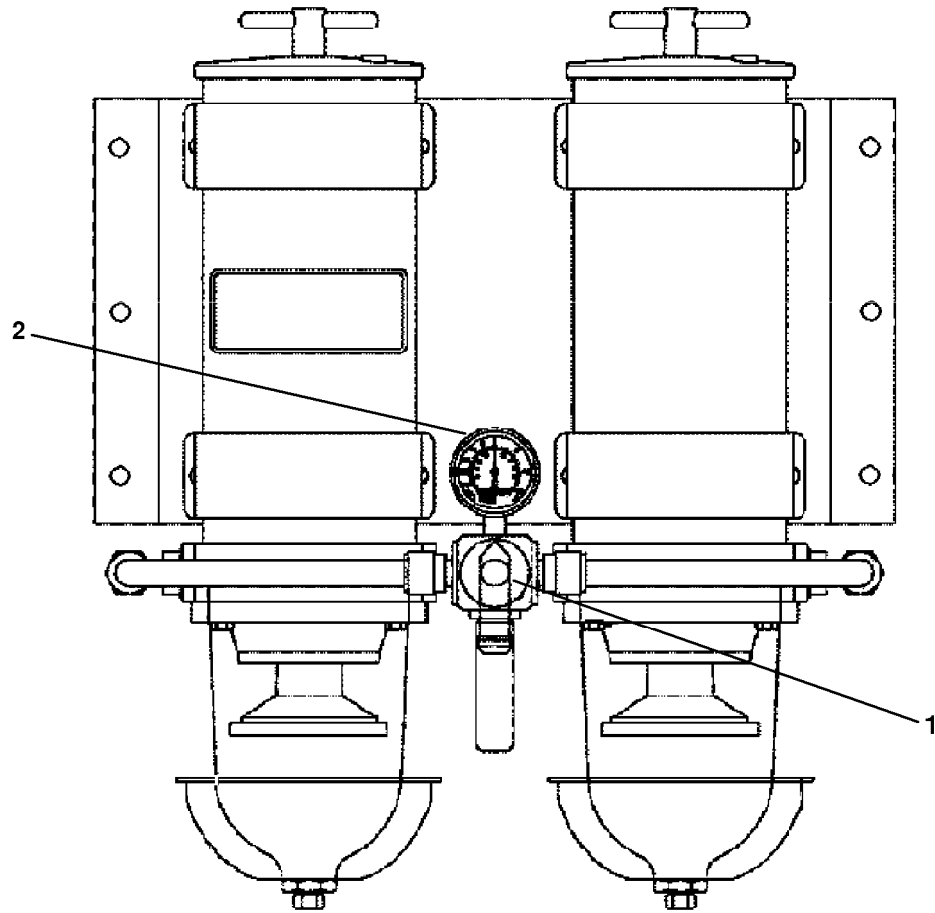

FIGURE 2-23A. Fuel Filter/Water Separator Assembly.
2-29.1. Repair Fuel Filter/Water Separator Assembly. (FIGURE 2-23A)
- a. Position three way valve assembly (1, FIGURE 2-23A) to the OFF position.
Repair is by replacement of the pressure-vacuum gauge assembly (2, FIGURE 2-23A).
- a. Replace pressure-vacuum gauge assembly (2, FIGURE 2-23A) on valve assembly (1).
- b. Rotate three way valve assembly (1) to desired position.